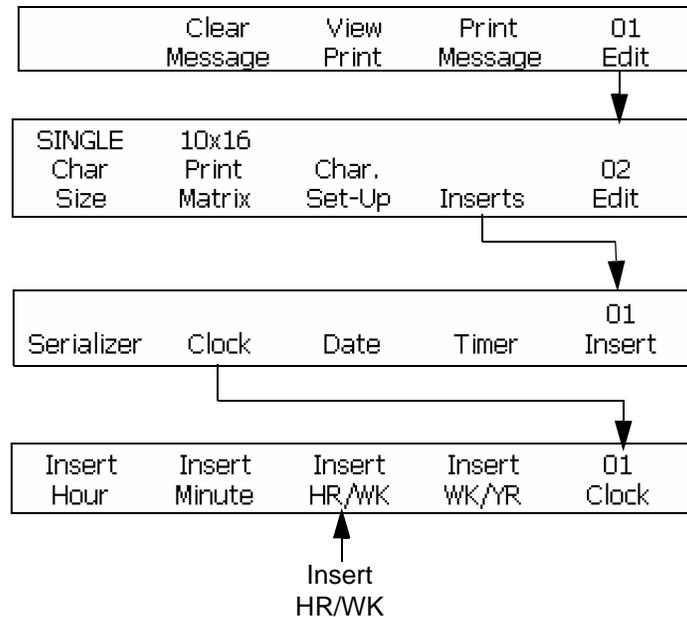

Figure 6-27: Accessing Frame <01 Clock>
- 1 Begin in the Frame <01 Clock>. Refer to Figure 6-27.